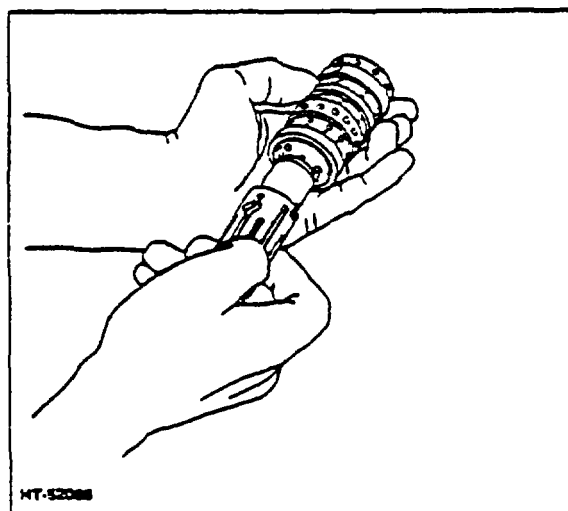

Figure 21. Installing Spool in Sleeve
5. Carefully install the spool within the sleeve (Fig. 21). Be sure that spring slots of both parts are at the same end.